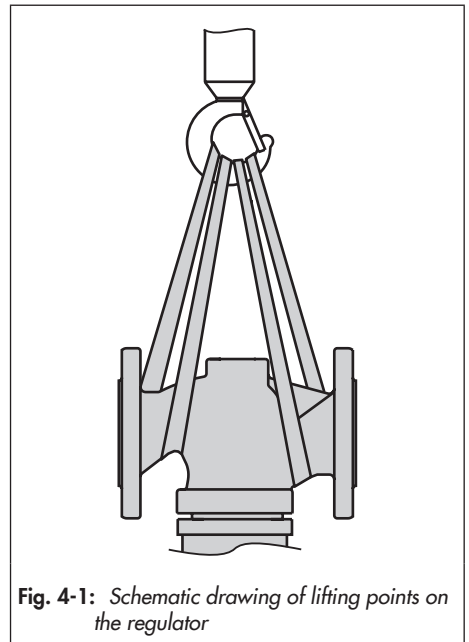

Fig. 4-1: Schematic drawing of lifting points on the regulator
- Use a hook with safety latch to secure the slings from slipping off the hook during lifting and transporting (see Fig. 4-1).
1. Attach one sling to the body flange and one sling to the rigging equipment (e.g. hook) of the crane or forklift (see Fig. 4-1).